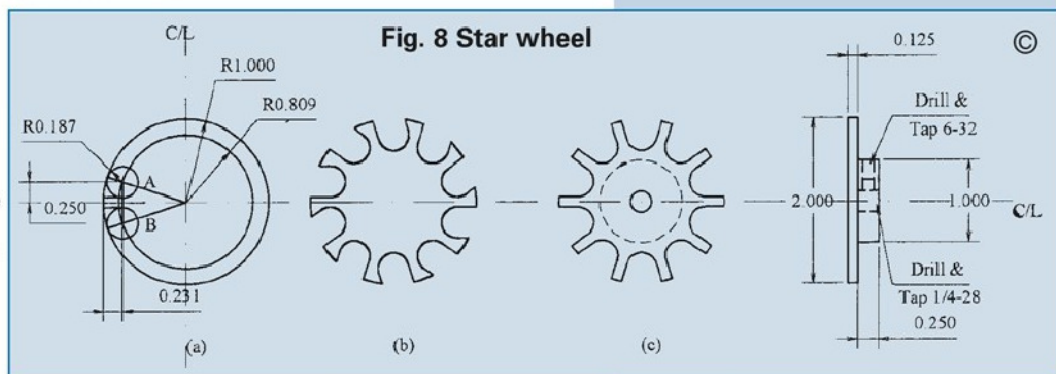

Fig. 8 Star wheel
- Fig. 8. Star wheel
Star wheel (Fig. 8)